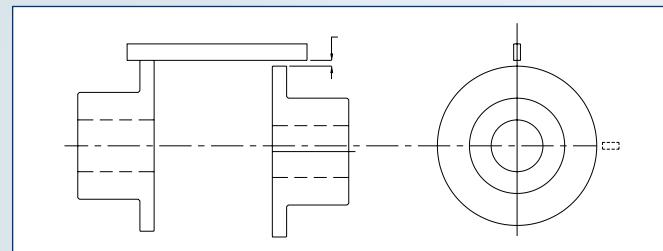
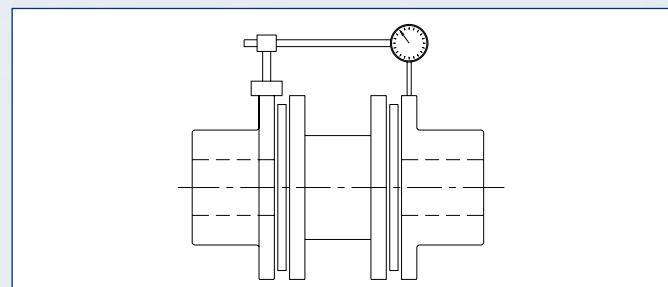

Fig. 6
Fig. 7
- Initial parallel alignment can be checked by using a straight-edge across the hub flanges (per Fig. 6) to measure the approx. distance (r) as shown in Table 6. A more precise method is using the dial indicator whereby the parallel off-set is measured in at least two places 90 degrees apart while rotating one hub. This is shown in Fig. 7.